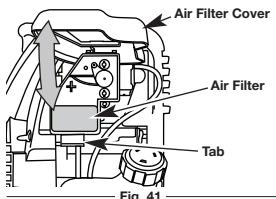

Fig. 41
- Open the air filter cover. Push the tab on the under side of the cover inward. Then pull the air filter cover out and up. (Fig. 41).
- Remove the air filter (Fig. 41).
- Swing the cover down until the tab on the air filter backplate snaps into place in the slot on the air filter cover (Fig. 41).